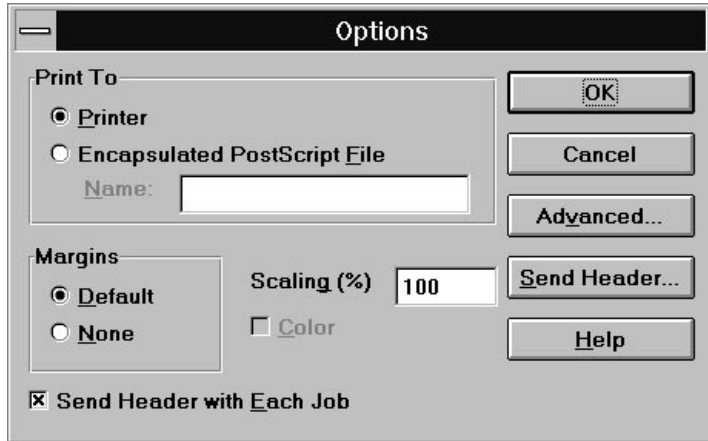

Figure 5-16 Options Dialog Box
- Options brings up the Options dialog box, shown in Figure 5-16.